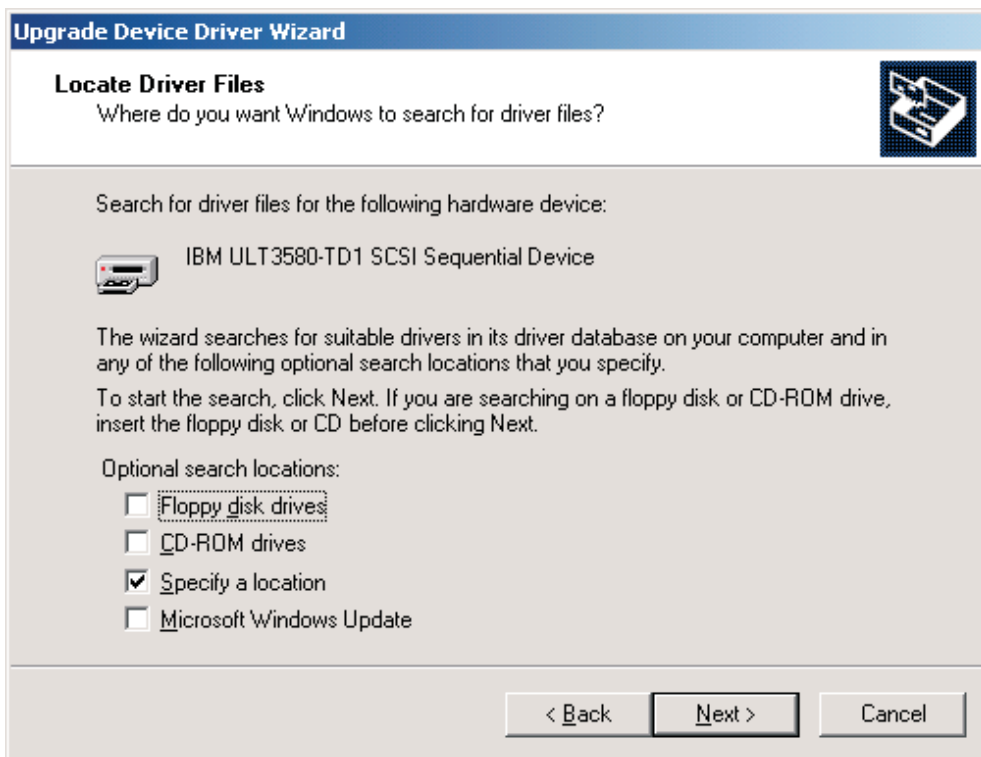

Figure 30. Locate Driver Files Screen with Specify a Location Selected
13. Select the **Specify a location** checkbox and clear all other checkboxes. Click **Next >**. See Figure 30 on page 214.